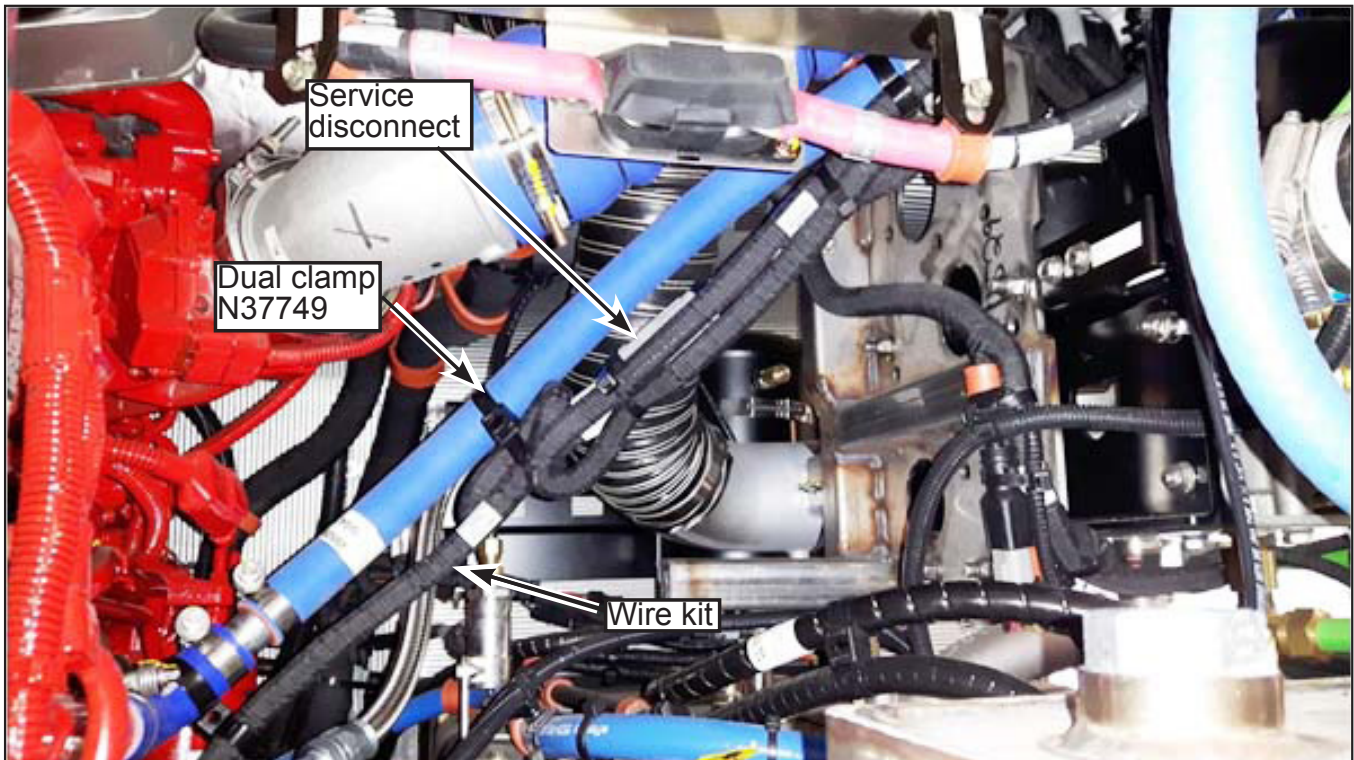

Figure 9 - Routing of Wire Kit
- 1.9. Continue routing the wire kit along the blue hose with a dual clamp (N37749). Note the position of the service disconnect. The excess length of the wire kit will need to be attached later with zip ties (see Figure 9).